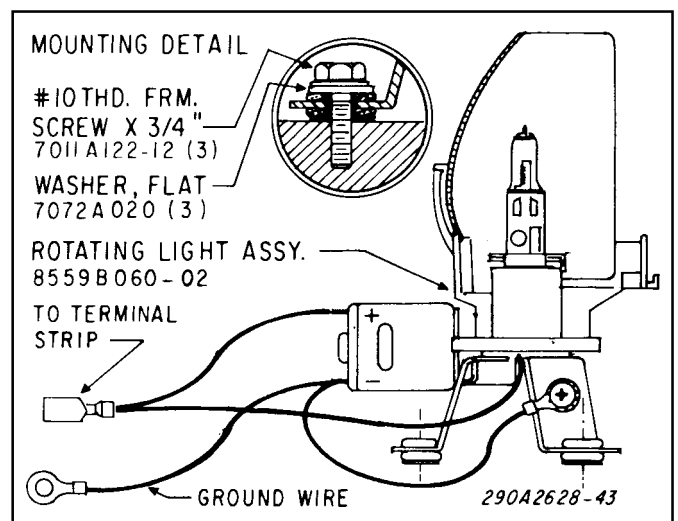

Figure 4.
- b. See figure 4. Secure the assembly in position using three #10 x 3/4" hex head thread-forming screws and three flat washers. Torque the screws to 30 - 55 in-lbs.